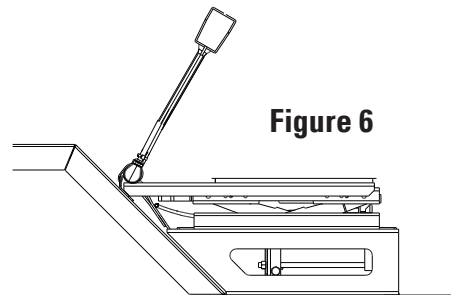

Figure 6
1. Position SEAT in lowest position. See FIGURE 6